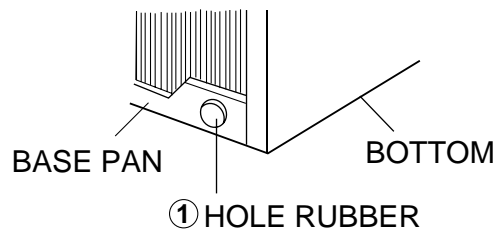
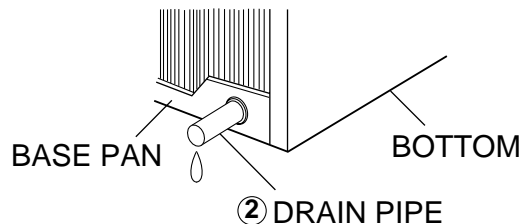

Figure 22
Figure 23
The air conditioner must be level or titled slightly to the outside for proper water drainage. On exceptionally hot and humid days the air conditioner may drain condensation water through overflow. If the air conditioner is used in hot and a high humidity zone, exchange the ① HOLE RUBBER for the ② DRAIN PIPE. (See figure 22, figure 23)